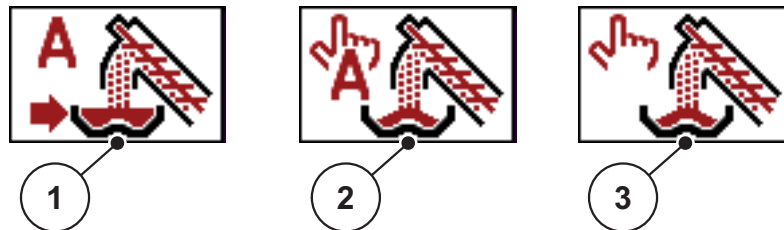

Figure 4.7: Operating mode symbols (function key F4 in operating screen)
- Observe the symbols over the F4 function key. Also refer to Figure 4.7.
Refer to Figure 4.7: Operating mode symbols \(function key F4 in operating screen\).